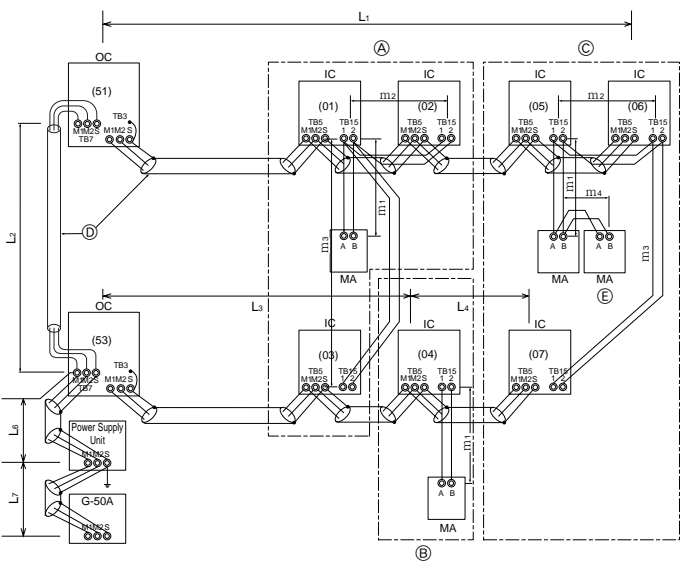

Fig. 6-3
■ Controlador remoto MA (Fig. 6-3)